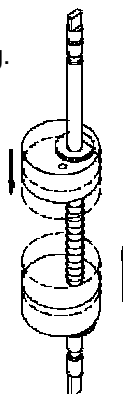

Figure 4
2. Place the actuator in the clock-wise (CW) position and connect to the AS-I bus segment.
3. Push down on the top cam until it clears the splined coupler, rotating clockwise until the CW LED is illuminated (figure 4).
6. Pull up on the lower cam until it clears its splined coupler, rotating counter-clockwise until the CCW LED is illuminated (figure 4).